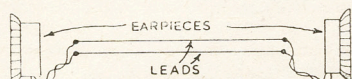
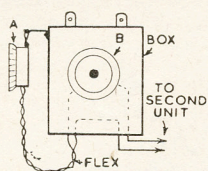

Fig. 1—The simplest form
Fig. 2—Double phone system
For both microphones and earpieces ordinary earphones are used. All good phones will function well; ex-service balanced-armature phones are also very good and extremely cheap. The phones are removed from the headband, and only one set of headphones is required to make the simplest system, shown in Fig. 1.
In Fig. 1 the phones are simply joined together by two leads of appropriate length. For the latter, twin flex can be used, or the bell-wire cheaply sold in the well-known stores. The leads can be taken under the carpet, or wherever convenient, and a good example of the results to be expected will be obtained.
For convenience, one phone may be mounted in a small box hung on the wall, and the earpieces used for listening may be connected to a length of flex, as shown in Fig. 2. The phone (A) is used for listening, and may be provided with a wire loop so that it can be hung on the hook when not in use. All the phones are wired in series, and as a result the speaker will also hear his own voice. This is no disadvantage, but the fact that more phones are being operated results in some loss of volume, compared with the simple circuit in Fig. 1.
To call the distant person's attention, an electric bell or buzzer is required. If the circuit in Fig. 1 is used, one of the leads can also be common to a small